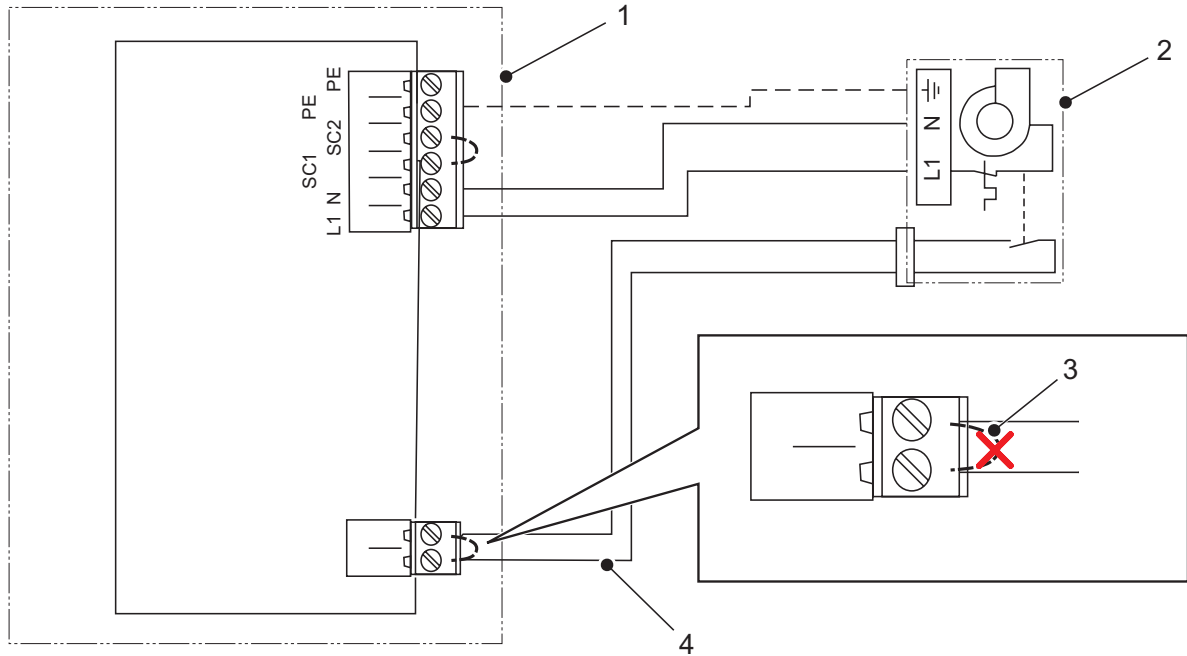

Figure 16: Driver Board Connections
- d. Wire and connect the leads to the driver board inside the humidifier, as shown in Figure 16.